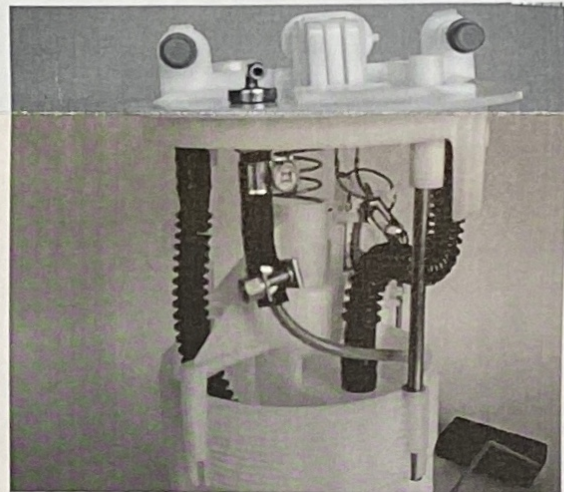

Figure 2
4. Cut the blue fuel pipe to length and refit sender unit to fuel tank. Avoid the float mechanism. *Figure 2.*